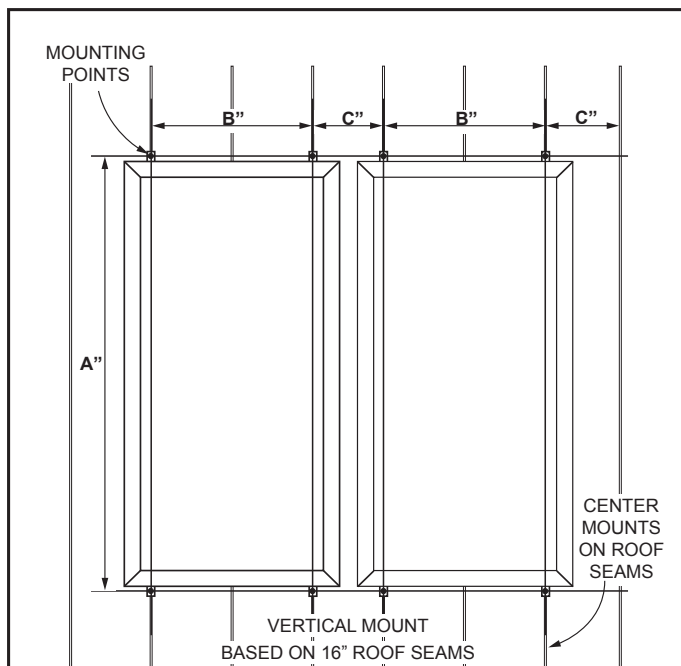
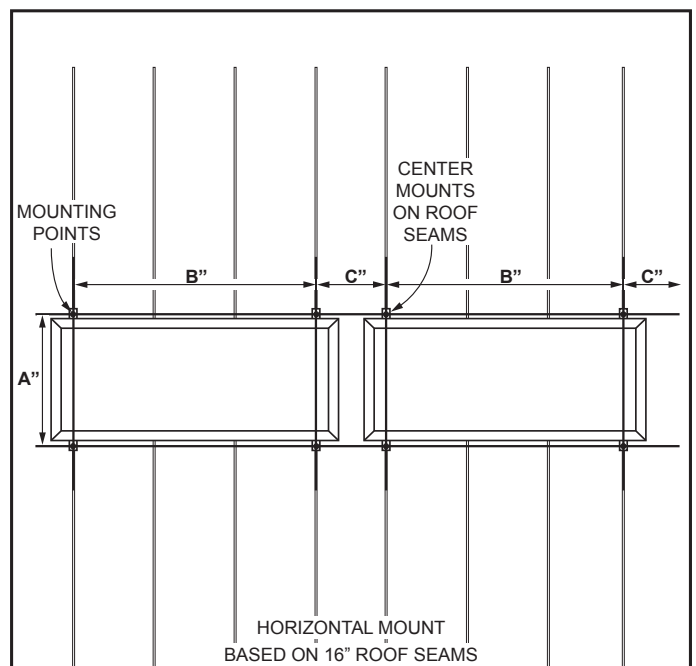

Figure 1.
Figure 2.
1. Determine roof layout. See Figure 1 for vertical mounting, Figure 2 for horizontal mounting, and Table 1.
3. Layout the roof as specified in Figure 1 for vertical mounting, Figure 2 for horizontal mounting, and Table 1.
4. Note that the bolt hole in the mounting clamp should be located at the position where the 5/16" hole is normally located. Drill holes are not required for this application. See Figures 1 & 2.